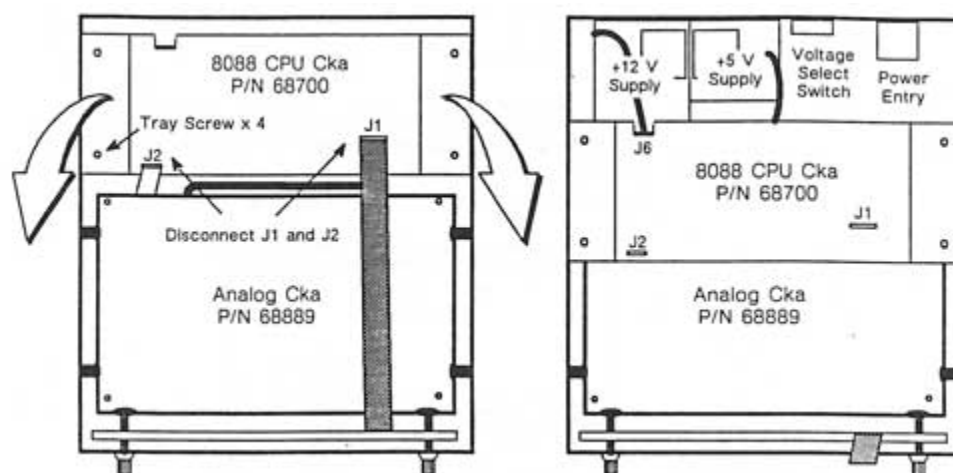

Figure 9-4. Accessing the Power Supplies
6. Access the power supplies by moving the tray that holds the 8088 CPU Cka as shown in Figure 9-4. To move the tray, remove the four screws that secure the tray to the
5. Access the power supplies by moving the tray that holds the 8088 CPU Cka as shown in Figure 9-4. To move the tray, remove the four screws that secure the tray to the chassis and disconnect the cable connected to J1.